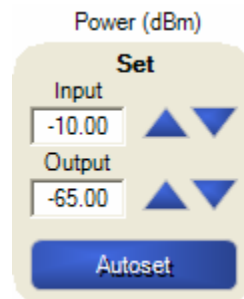

Figure 1-16: Output Level Meter
12. Program the *Output Level* to **-65 dBm** shown in Figure 1-16.